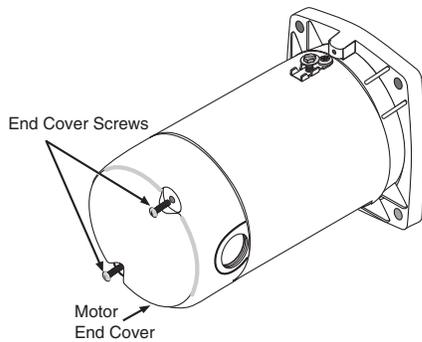

Figure 5: Removing Motor End Cover
1. In a new pump, the motor leads will already be connected to the switch; the motor will be hooked up for 230 volts. *If your power supply is 115 volts, see Figure 5, Page 7.*